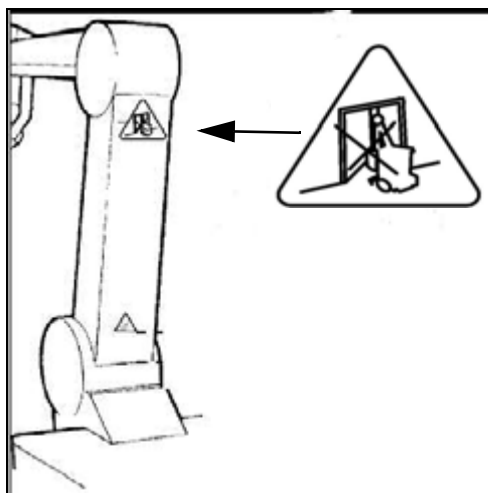

Fig. 27: "Rambo" label
- Affix the "Do not open doors to rooms with the unit" label as shown in \(Fig. 27 / p. 55\).